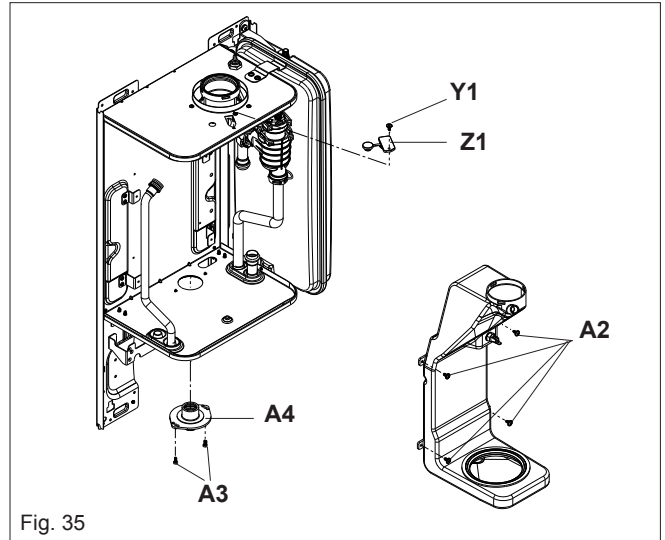

Fig. 35
6.20 FLUE COLLECTOR REMOVAL (fig. 35)
Set the flue gas analyser to read CO₂, allow the burner to stabilise and insert the probe into the flue analysis test point (Y1-Z1 fig. 35). The appliance will operate in CO₂ mode for approximately 15 minutes.